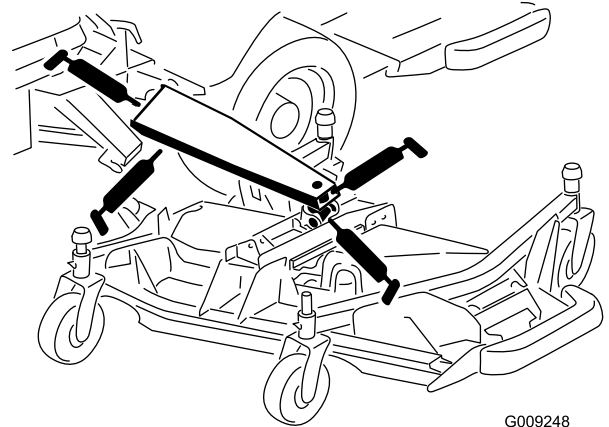

Figure 75
- 3 main lift-arm bushings (Figure 75)
- 1 lift-cylinder bushing (Figure 75)